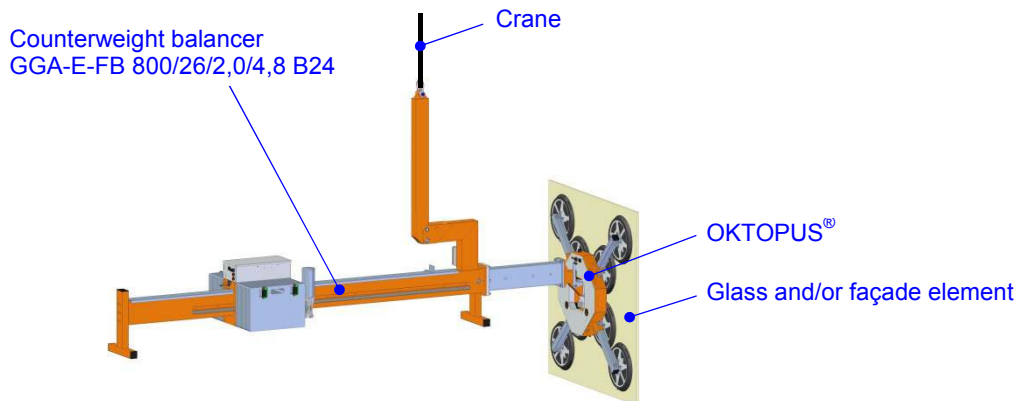

Fig. 2: Attachment GGA-E-FB 800/26/2,0/4,8 B24
The counterweight balancer GGA-E-FB 800/26/2,0/4,8 B24 is designed as an attachment for an OKTOPUS® GLASS-Jack GL-RN-B 400/600/800 or OKTOPUS® GLASS-Jack GL-RN-F 400/ 600/800 and is mounted to a crane according to fig. 2.
- ⇒ the counterweight balancer has to be mounted to the OKTOPUS® according to section 3.3 of this operating manual and following this, the combination counterweight balancer/OKTOPUS® has to be coupled to the crane (s. fig. 2).